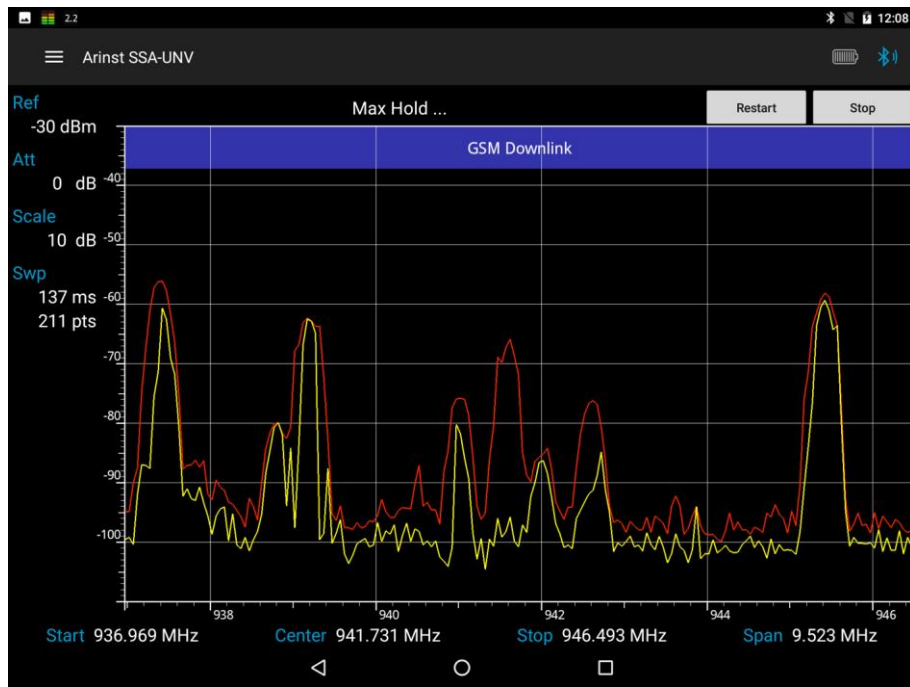

Figure 90 – Displaying the maximum signal level
9.6.5. On the tablet / smartphone screen, the average maximum signal level will be displayed in red, figure 90.